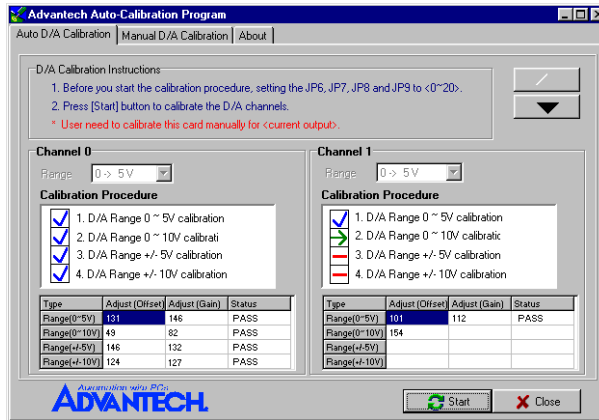

Figure D-7: Calibrating D/A Channel 1
Step 7: D/A channel 1 calibration is enabled (Fig. D-7)